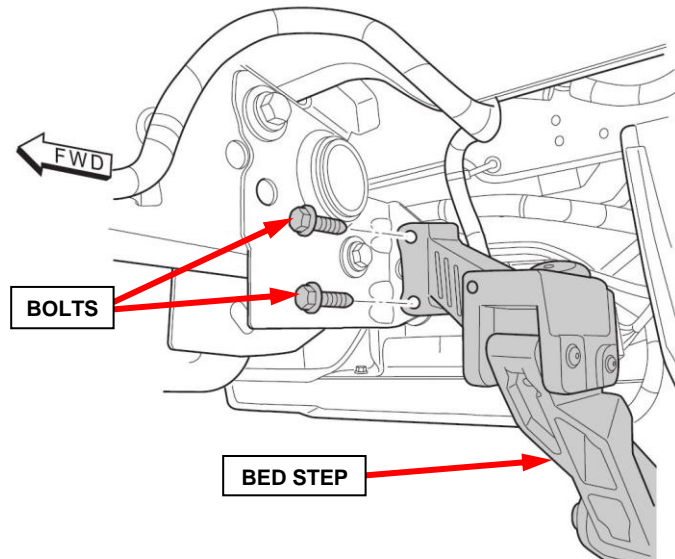

Figure 2 – Bed Step
3. Remove and **SAVE** the two bolts securing the bed step then remove the bed step (Figure 2).